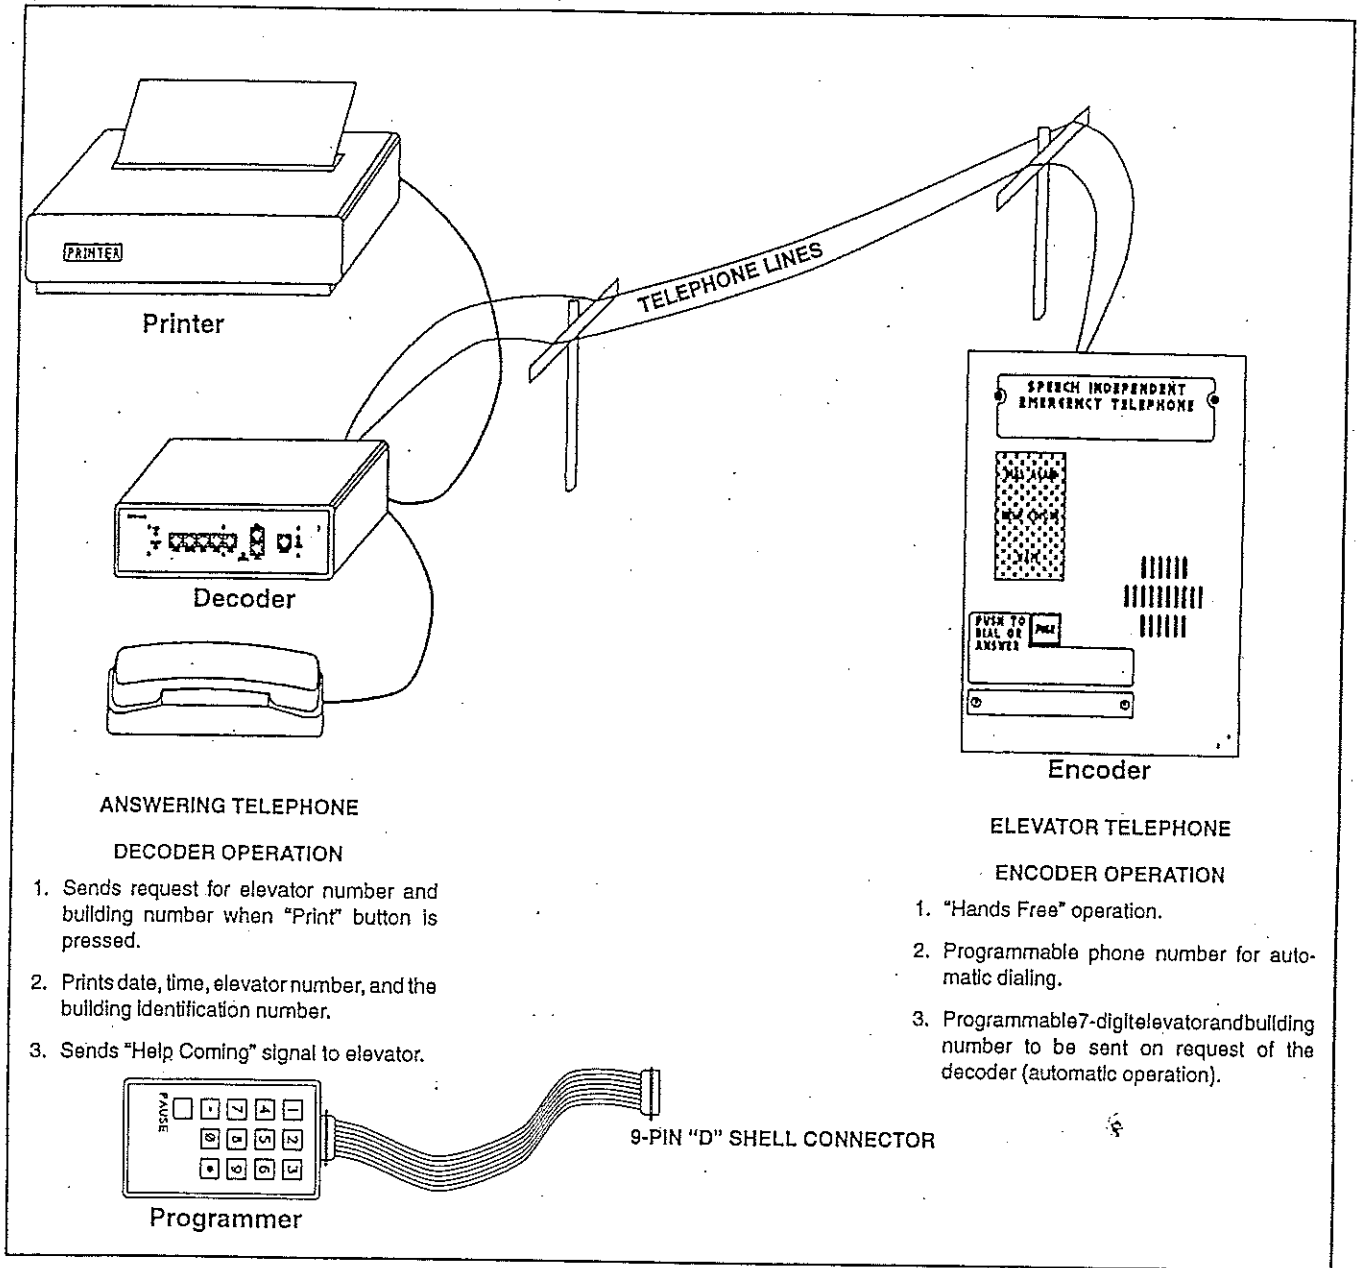

Figure 1
The complete HelpLink™ system consists of (4) major components as follows (See Figure 1):